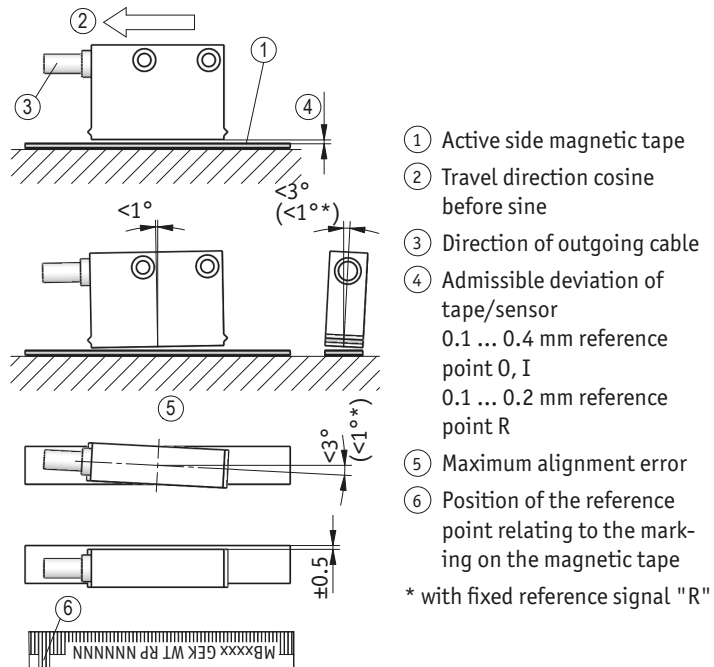

Fig. 6: Definition of the counting direction with magnetic tape and assemblage sensor / magnetic tape, gap measure, tolerances
► Take care that the magnetic sensor is aligned correctly in order to ensure optimum sensing (see Fig. 6).
- The distance tolerances were not observed over the whole measuring length (see Fig. 6).
- The magnetic sensor has been mounted with the active side turned away from the band (see Fig. 6).
- Magnetic sensor has not been aligned according to Fig. 6.